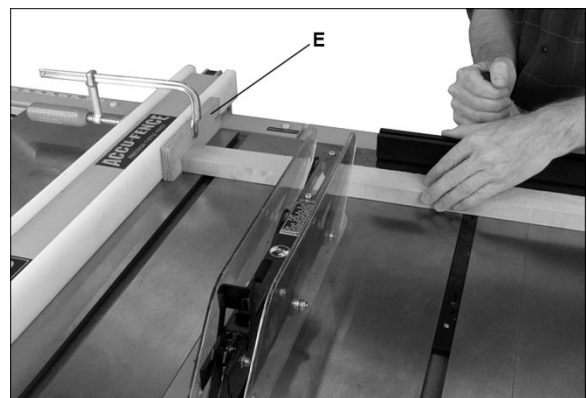

Figure 37
- Do not use miter gauge and rip fence in the same operation unless provision is made by use of a facing board on the fence, to allow the cutoff section of workpiece to come free before the actual cut begins (See Figure 37).
Crosscutting should **never** be done freehand nor should the fence be used as an end stop unless an auxiliary block (E, Figure 37) is clamped to the front of the blade area such that the cutoff piece comes free of the block before cutting begins.